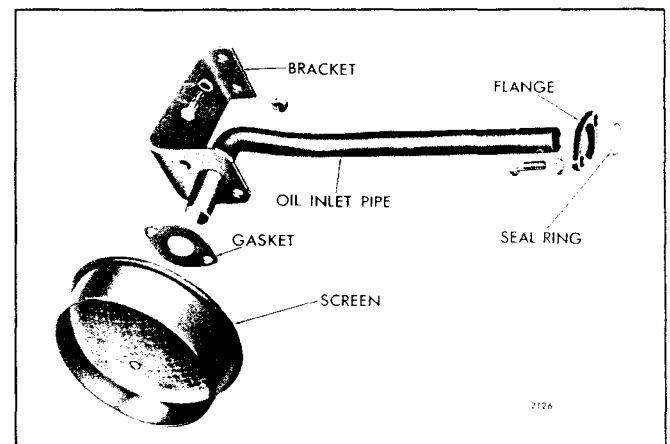

Fig. 9 - Oil Pump Inlet Pipe and Screen
4. Attach the oil inlet screen to the oil inlet pipe support with two lock nuts (6V engine) or two bolts and lock washers (Fig. 9).